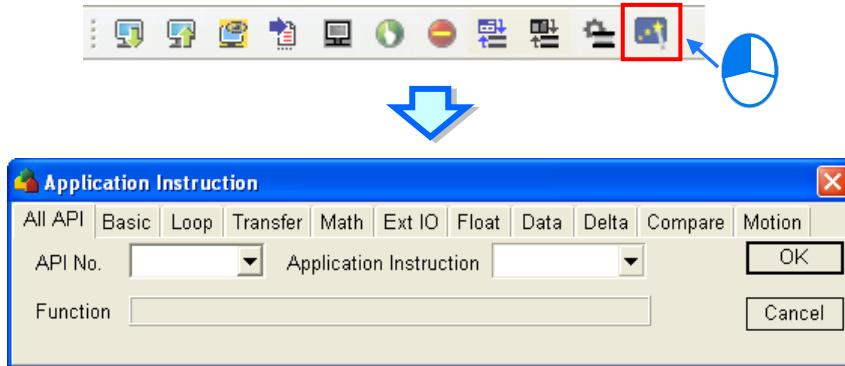

Figure 12-26 Instruction Wizard
- After the users click  on the fast toolbar, the **Application Instruction** window will appear, as shown in figure 12-26.